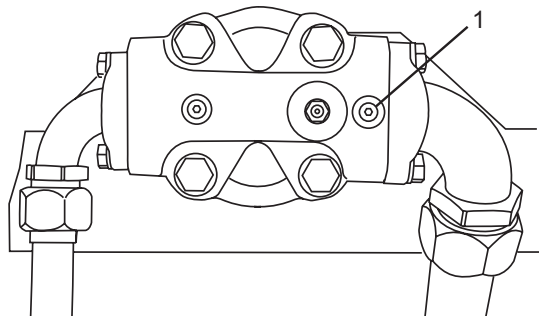

Figure 50
- b. The O-Ring plug (Figure 50, Item 1) located in the end cover on the inlet side of the pump, or